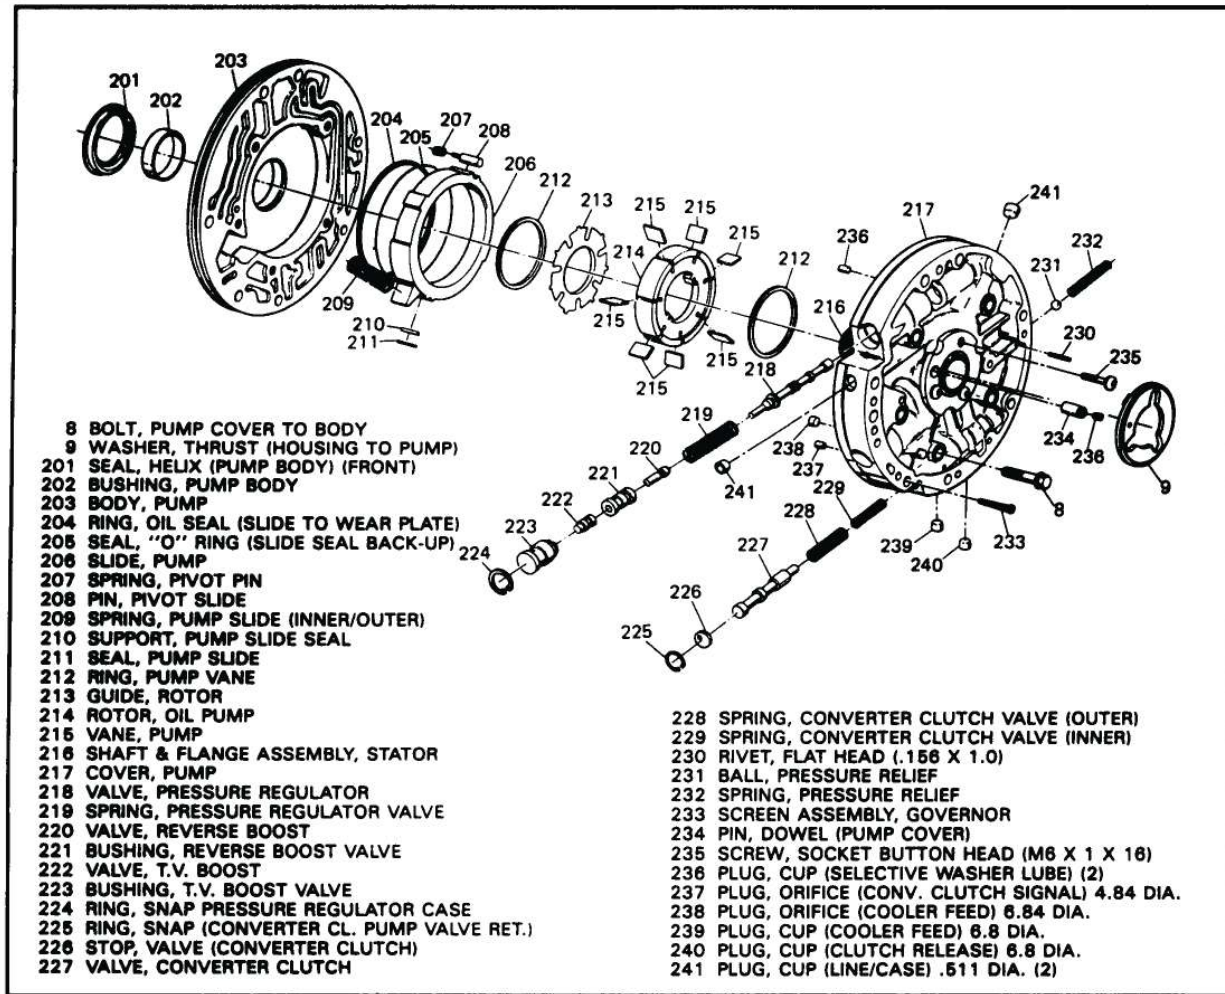

Figure 126
1. Disassemble, clean and inspect all the oil pump parts that are shown in Figure 126.
2. Use Figure 126 as a guide for disassembly.